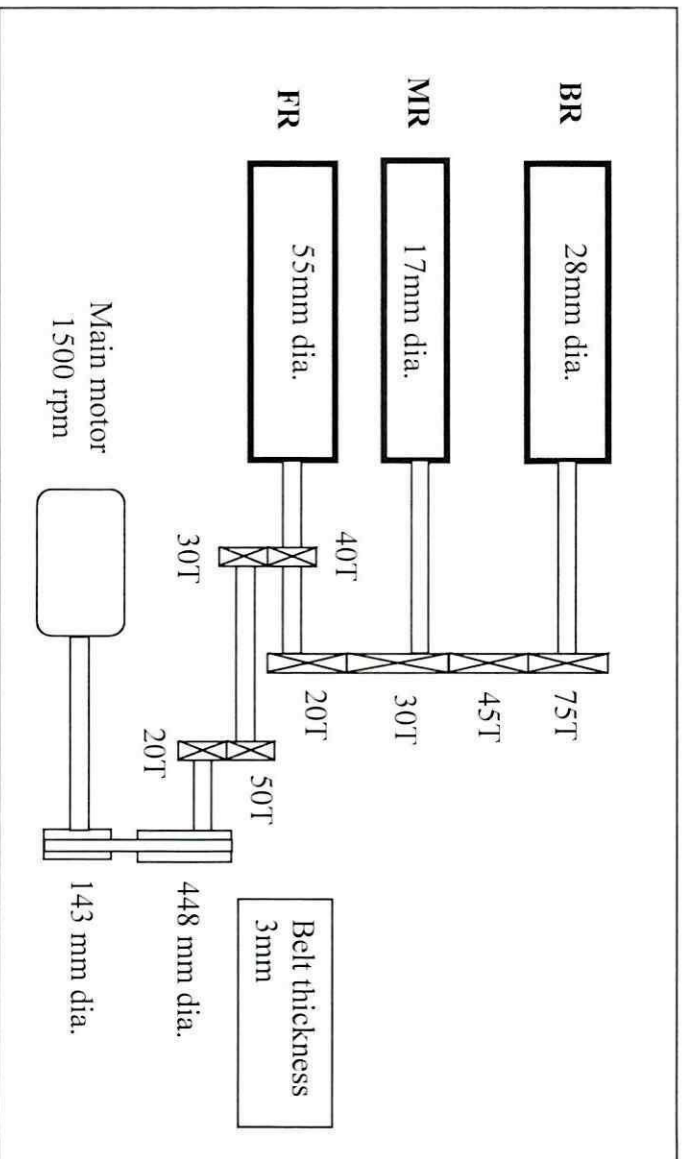

Figure Q3 (b)
- (i) List **ONE (1)** mechanical factor that cause irregularity in drafting. (1 mark)
- (ii) State **TWO (2)** suggestions on how to reduce irregularity of fibres in yarn processing. (2 marks)
- (b) **Figure Q3 (b)** shows gear arrangement for spinning process. Analyse:
- (i) Draft between Front Roller (FR) and Middle Roller (MR) (3 marks)
- (ii) Draft between Middle Roller (MR) and Back Roller (BR) (3 marks)
- (c) Evaluate **THREE (3)** possible factors for end-breaks during ring spinning process. (3 marks)
- (d) Examine **TWO (2)** additional elements included in Roving process that distinguish it from the previous drawing process. (2 marks)
- Q4** (a) As a textile engineering technologist in a spinning industry, you found that some automation features need to be implemented to the operations. Highlight **FOUR (4)** areas in spinning where automation is necessary and justify the reason. (4 marks)
- (c) Determine **TWO (2)** functions of Balloon Control Ring (BCR) in Ring Spinning process. (2 marks)